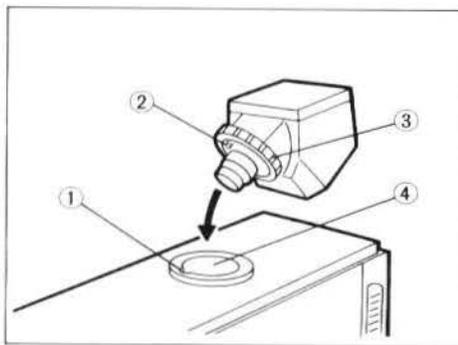

Fig. 14
1. Remove the dust cap from the camera port ④ at the top of the microscope stand, and while inserting the guide pin ② of the adapter into the notch ① in the camera port, clamp with knurled ring ③. (Fig. 14)
- ★ Be sure to put the dust cap on the camera port ④ whenever the adapter is removed.